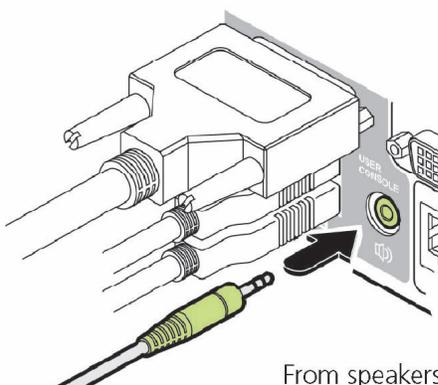

FIGURE 3-6. CONNECTING SPEAKERS TO THE USER CONSOLE
5. Audio: Where required, connect the lead from your speakers to the audio socket. See Figure 3-6.